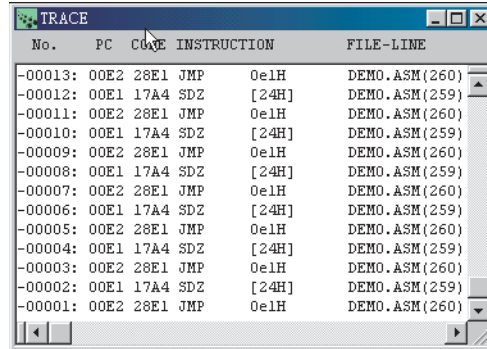

Fig 5-7
Once the trace qualify and trigger conditions have been setup, those instructions which satisfy the qualify conditions will be recorded in the trace buffer. The Trace List command of the Window menu provides the functions to view and check the trace record information, used for debugging the program. The trace record fields may not all be displayed on the screen except for the sequence number. These fields are dependent upon the settings in the Debug sub-menu from the Options menu. The text enclosed by the parentheses are the headings shown in the Trace List command of the Window menu. Fig 5-6 and Fig 5-7 illustrate the contents of the trace list under the different debug options.
- For any of the trigger modes, the sequence number of a trigger point is +0. The trace records before and after the trigger point are numbered using negative and positive line numbers respectively. If all the fields of the Trace Record Fields (in the Debug Option of Option menu) are selected, the result is as shown in Fig 5-7. If No trigger mode is selected or the trigger point has not yet occurred, the sequence number starts from -00001 and decreases 1 sequentially for the trace records (Fig 5-6).
- **Program count (PC)**